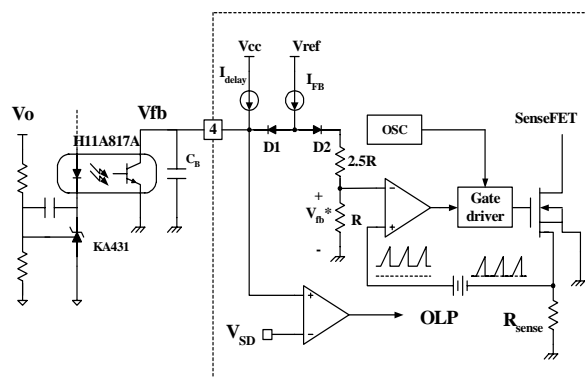

Figure 5. Pulse width modulation (PWM) circuit
2. Feedback Control : FSDM07652RB employs current mode control, as shown in Figure 5. An opto-coupler (such as the H11A817A) and shunt regulator (such as the KA431) are typically used to implement the feedback network. Comparing the feedback voltage with the voltage across the Rsense resistor plus an offset voltage makes it possible to control the switching duty cycle. When the reference pin voltage of the KA431 exceeds the internal reference voltage of 2.5V, the H11A817A LED current increases, thus pulling down the feedback voltage and reducing the duty cycle. This event typically happens when the input voltage is increased or the output load is decreased.
2.1 Pulse-by-pulse current limit: Because current mode control is employed, the peak current through the Sense FET is limited by the inverting input of PWM comparator (V_{fb}^*) as shown in Figure 5. Assuming that the 0.9mA current source flows only through the internal resistor ($2.5R + R = 2.8 k\Omega$), the cathode voltage of diode D2 is about 2.5V. Since D1 is blocked when the feedback voltage (V_{fb}) exceeds 2.5V, the maximum voltage of the cathode of D2 is clamped at this voltage, thus clamping V_{fb}^* . Therefore, the peak value of the current through the Sense FET is limited.